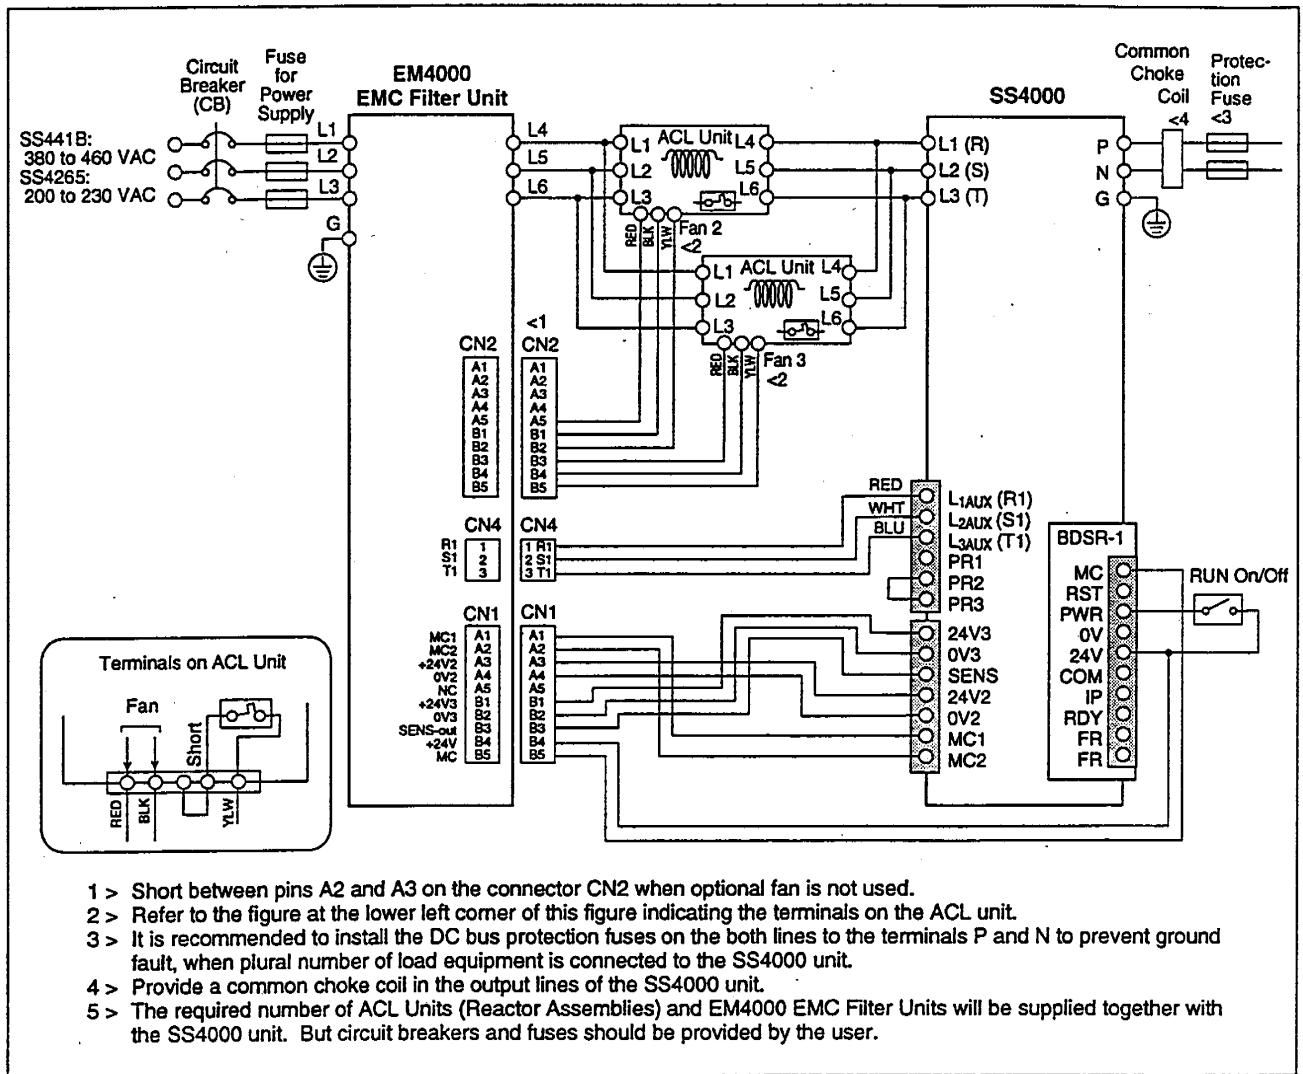

Figure 4.6 – Typical Connection of AC Input Power Wiring for Single Unit of Model SS441B and SS4265 Units
Figures 4.6 to 4.8 show typical connection of AC input power wiring for Model SS441B and SS4265 units. Figure 4.6 shows AC input power wiring for the single unit, and Figures 4.7 and 4.8 show AC input power wiring for parallel connection of two units and three units respectively. Select appropriate ACL units (reactor assemblies), EM4000 EMC filter units, disconnects, etc. and installed them at the positions shown in these figures.
To protect AC input power, install a circuit breaker with supplemental contact (CB) in the AC input power line. Refer to Figures 4.6 to 4.8 for wiring. The rated ampacities of the circuit breakers are as follows:
For wiring the EM4000 units, refer to Figures 4.6 to 4.8.